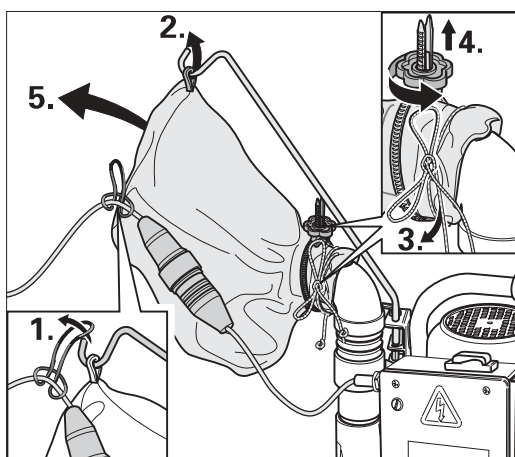

Fig. 51: Removing the dust bag.
- 5 Remove the strain relief ring together with the extension cable from the cable rod (Fig. 51, 1.).
- 6 Unhook the sling on the dust bag from the cable rod (Fig. 51, 2.).
- 7 Open the loop of the string on the dust bag (Fig. 51, 3.).
- 6 Undo the multi-clip fastener by unscrewing the nut (Fig. 51, 4.).
- 7 Pull off the dust bag from the pipe stub carefully (Fig. 51, 5.) and then use the string to close the dust bag so that no dust can escape on the way to the emptying location. Remove the multi-clip fastener.